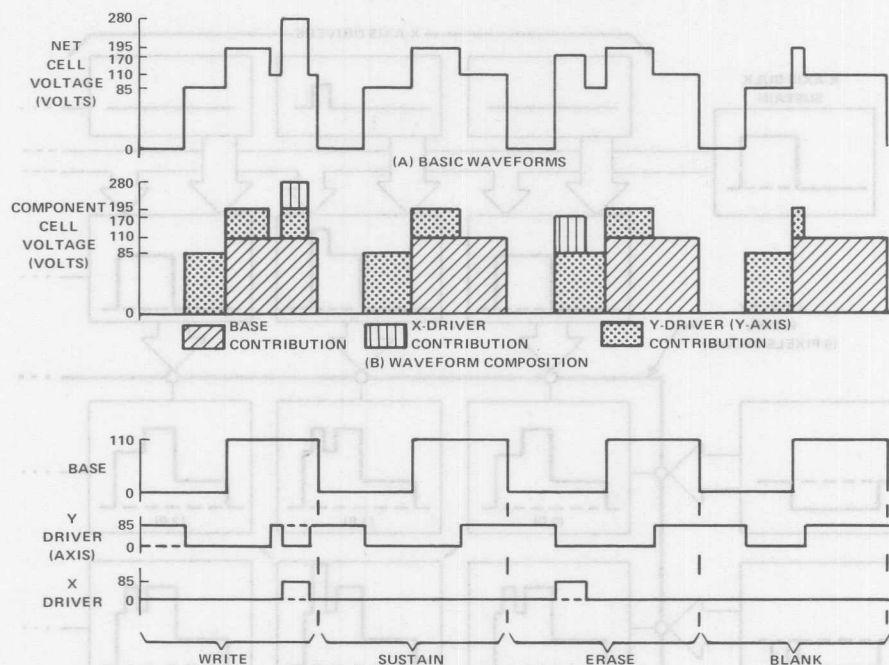

Figure 6. Functional Waveforms
Figure 6(A) illustrates the basic waveforms for write, sustain, erase and blanking. This is the net differential waveform created between the X and Y-axis electrodes (X axis - Y axis) by excursions on the X-axis or Y-axis or both. Figure 6(B) shows the composition of the differential waveform and identifies the origin of the components.
The first sequence of waveforms to consider is the sustain waveform. Review of Figure 6 shows the sustain waveform to be composed of two parts: the base pulse applied to the X-axis and a negative excursion on the Y-axis. It is important to note that this basic waveform is found in all other waveforms which require the retention of the panel data (selective write, selective erase). Additionally,